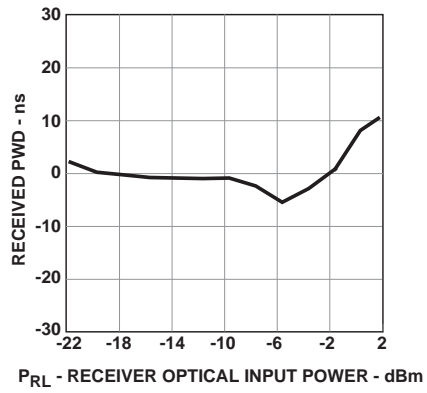

Figure 8. Typical POF receiver pulse width distortion vs. optical power at 10 MBd
- Receiver overdrive ( $P_{RL,max}$ ) is specified as the limit where  $|PWD|$  will not exceed 30 ns. The receiver will be in the correct state (logic “0”) for optical powers above  $P_{RL,max}$ . However, it may not meet a 30% symbol period PWD if the overdrive limit is exceeded. Refer to Figure 8 for PWD performance at high received optical powers.